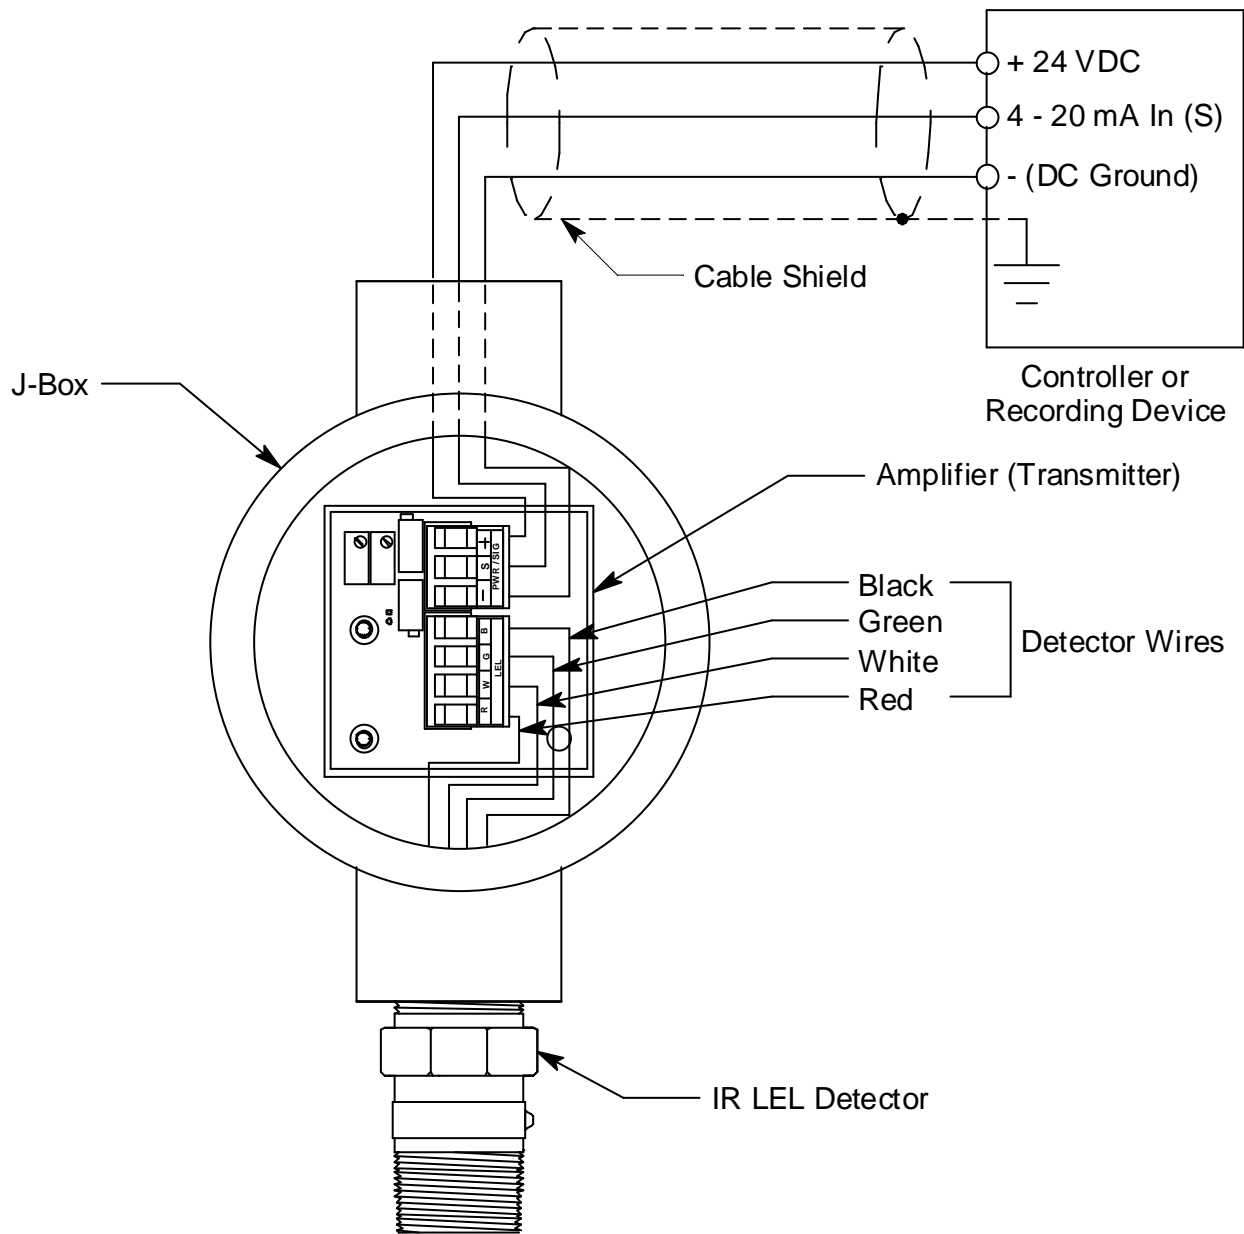

Figure 3: Wiring the Combustible Gas Transmitter to a Controller
4. The detector leads are factory wired. Verify that the detector leads are wired to the amplifier's detector terminal strip as shown in Figure 3.
7. Pull out the controller terminal strip, and connect the three wires to the terminal strip as follows (see Figure 3).
11. Connect the wires to the applicable detector/transmitter terminal strip at the controller as shown in Figure 3.
8. Connect the detector leads to the detector terminal strip as shown in Table 3 below and Figure 3 on page 7 of this manual.